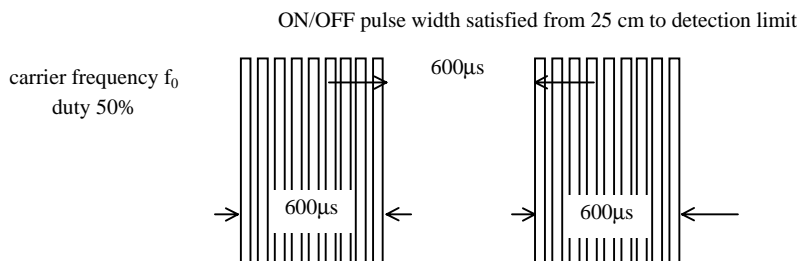

Fig 1. Burst Wave
- (1) Measuring placeIndoor without extreme reflection of light.
- (2) Ambient light source... Detecting surface illumination shall be 200±50Lux under ordinary hite fluorescence lamp of no high frequency lighting.
- (3) Standard transmitter ... Burst wave indicated in Fig 1. of standard transmitter shall be arranged to 50mV_{p-p} under the measuring circuit specified in Fig 2.